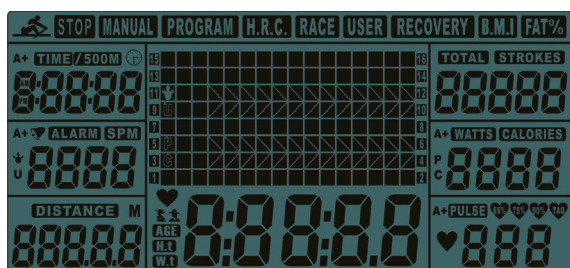

fig. 1
1. Insert two AA batteries. A signal of two seconds sounds while a segment test is done (fig. 1).